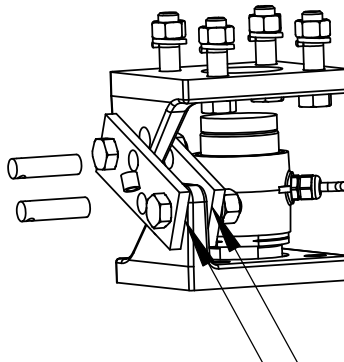

FIGURE 3
4. INSTALL PLATES (8,9) USING M16 BOLTS (3), NUTS (1) AND LOCKWASHERS (2) SUPPLIED.
- A. PASS BOLTS (10) THRU WELDED PLATE (9) AND MOUNT AS SHOWN IN FIGURE 3.
- B. THREAD BOLT INTO INSIDE PLATE (8) LEAVING ABOUT 1/16" (2mm) SPACE BETWEEN PLATES AND MOUNT.
- C. ATTACH NUTS (11) AND LOCKWASHERS (12) AND TIGHTEN SECURLY.
IMPORTANT: PLATES MUST BE LOOSE AND ABLE TO MOVE FREELY EVEN AFTER NUT IS TIGHTENED. SEE FIGURE 3.